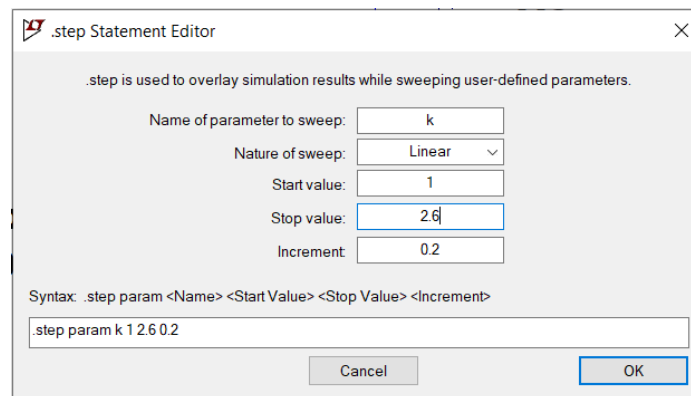

Figure 3.2 .step Statement Editor
2. Now add a .step spice directive and paste it on the schematic. Right-click on it to bring up the .step statement Editor. It should look like Figure 3.2. Fill in the following parameters in the editor.